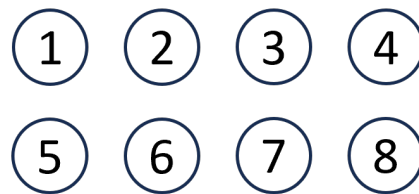

Figure 11.71: Filters, Channel Options
- b) The **Saturation** (Fig. 11.71, b) specifies the detectors used to collect the **Analog Input** data and automatically set its corresponding **Maximal Voltage** value (Fig. 11.71, c) that saturates it. Choosing the right detector is important as different detectors are saturated at different voltage levels (Table 11.2). If none of the common detectors are collecting data, use the **AIn** option to set the NC500 **Maximum Voltage** (10V), or the **Custom** option to set it between 0V and 10V.
- c) The **Maximum Voltage** (Fig. 11.71, c) displays the values at which preset detectors are saturated (Table 11.2). This value is used to warn users when the collected signal is saturating the detector, as in Fig. 11.18.